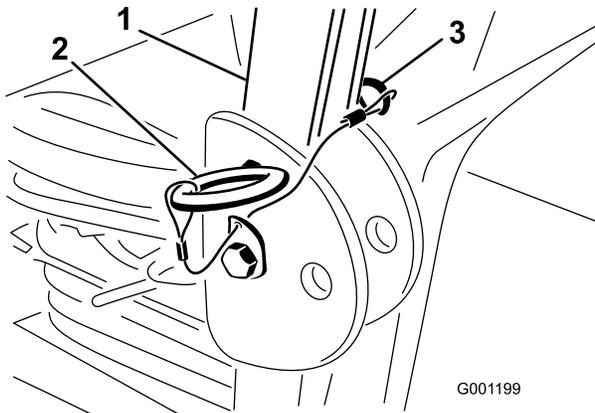

Figure 30
1. To lower the roll bar, remove the hairpin cotter pins and remove the two pins (Figure 30).
3. Install the two pins and secure them with the hairpin cotter pins (Figure 30).
4. To raise the roll bar, remove the hairpin cotter pins and remove the two pins (Figure 30).
5. Raise the roll bar to the upright position and install the two pins and secure them with the hairpin cotter pins (Figure 30).